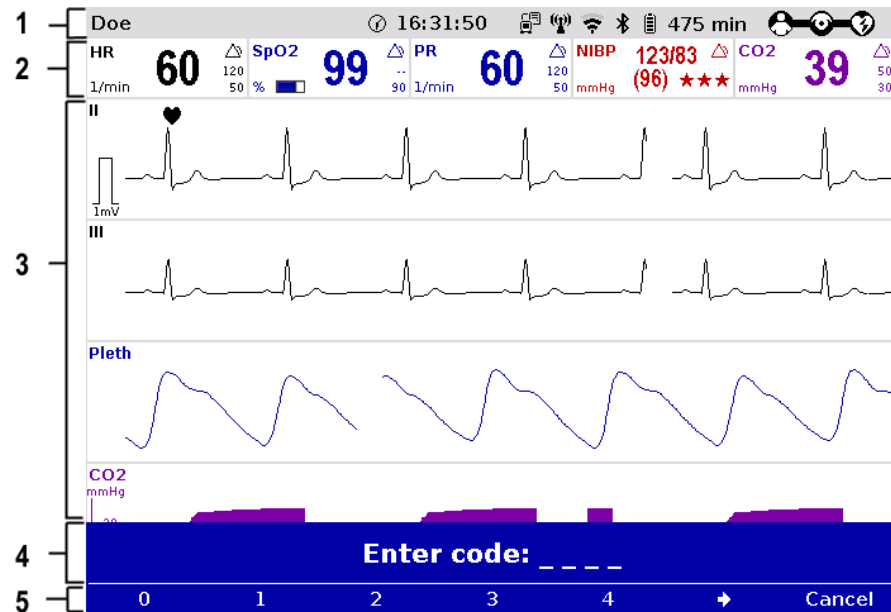

Fig. 4-2 Monitoring unit, example of basic structure of the screen pages
Status-/alarm line The following data are displayed in the status-/alarm line (Fig. 4-2, item 1):
Parameter area The measured parameters and the configured alarm limits are displayed in the parameter area (Fig. 4-2, item 2) of the display.
Curve and display area Up to 6 curves of measured values of monitoring functions can be displayed in the curve and display area (Fig. 4-2, item 3) of the display.
Message line In the message line (Fig. 4-2, item 4) of the screen, additional interactions with the user interface are displayed, e. g. to enter the PIN code for the OPERATOR user level or to enter patient data.
Softkey line The current function assignment of the softkeys is displayed in the softkey line (Fig. 4-2, item 5).